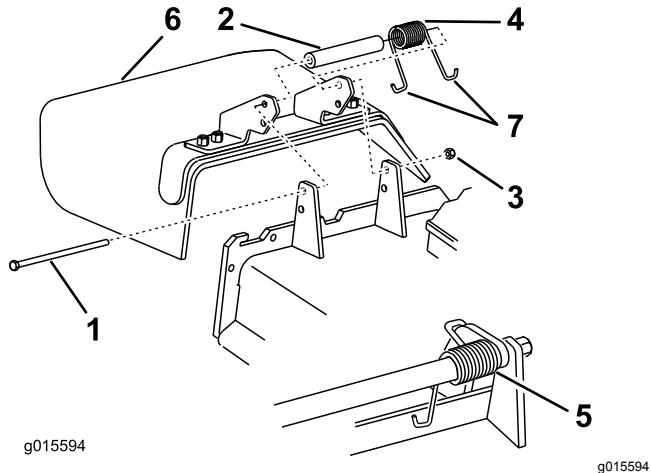

Figure 103
1. Remove the locknut, bolt, spring, and spacer holding the deflector to the pivot brackets (Figure 103). Remove the damaged or worn grass deflector.
Note: Make sure one J end of the spring is installed behind the deck edge before installing the bolt as shown in Figure 103.
3. Install the bolt and the nut. Place one J hook end of the spring around the grass deflector (Figure 103).